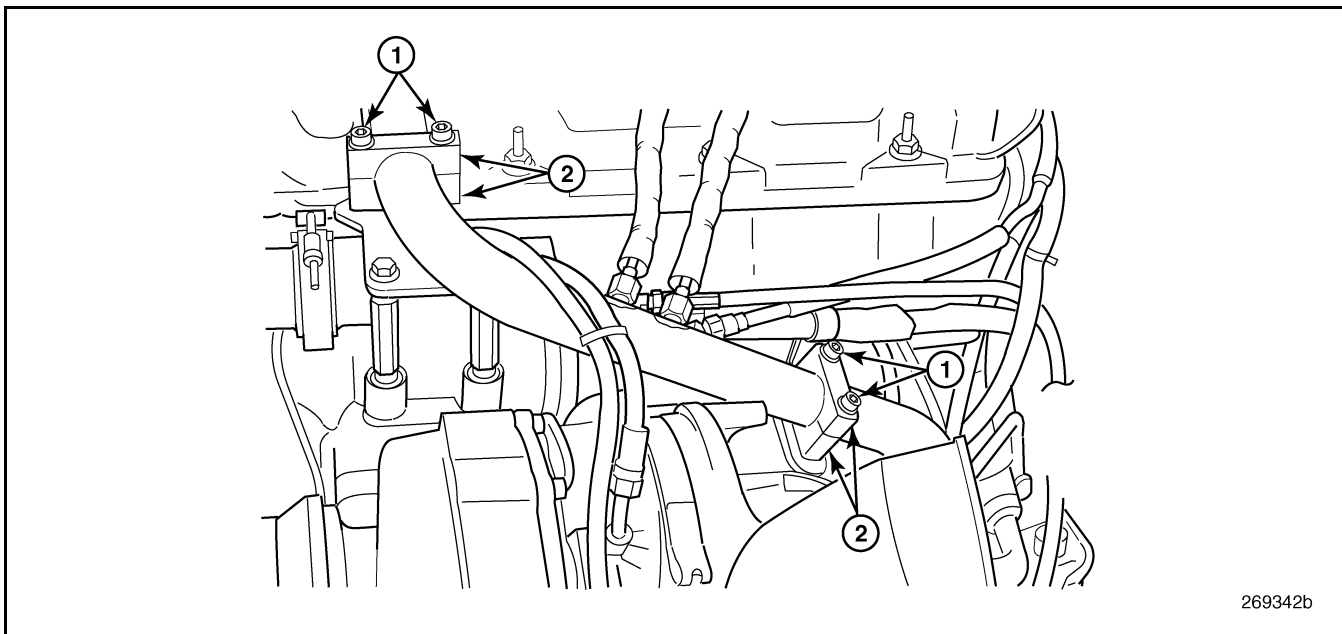

Figure 433 — Cool Tube Clamp Installation
4. Install the clamps and mounting bolts to secure the cool tube to the mounting brackets at the EGR valve and the front exhaust manifold (Figure 433). Tighten the bolts to 96 lb-in (11 N•m).